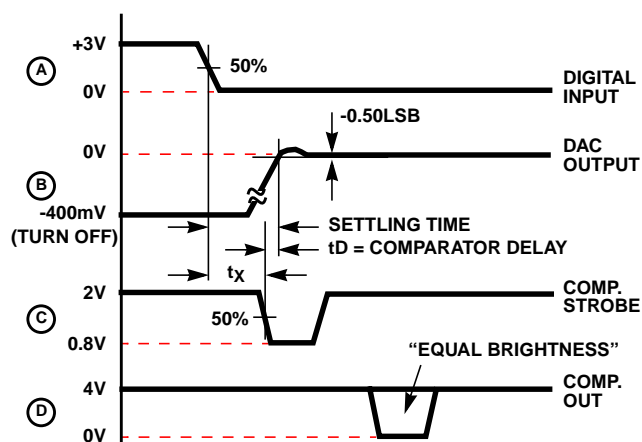

FIGURE 3B.
As shown in Figure 3B, settling time equals  $t_X$  plus the comparator delay ( $t_D = 15ns$ ). To measure  $t_X$ :
- Adjust the VLSB supply for 50% triggering at COMPARATOR OUT. This is indicated by traces of equal brightness on the oscilloscope display as shown in Figure 3B. Note DVM reading
- Switch to LSB to Pulse (P)
- Measure  $t_X$  from scope as shown in Figure 3B. Settling time equals  $t_X + t_D$ , i.e.,  $t_X + 15ns$